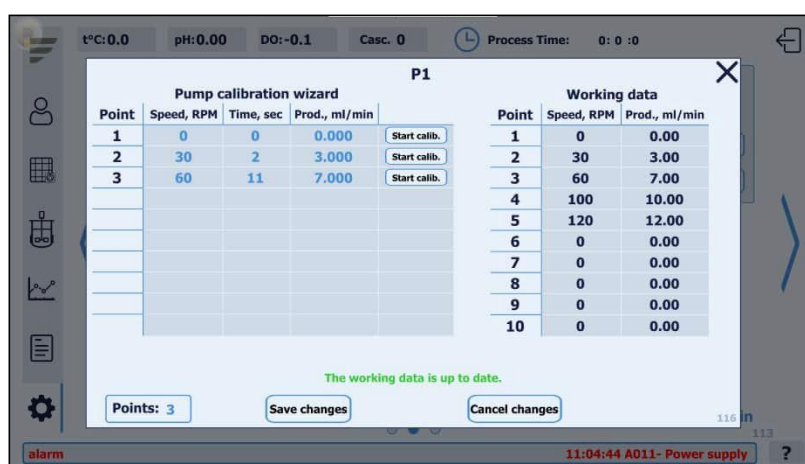

Figure 10.3. Pump calibration window
- 5) Use buttons P1, P2, P3, P4, and P5 to select the desired pump for calibration (see Figure 10.3). The P5 pump is the external pump* (controlled by an analogue signal), pumps P1 – P4 are built into the bioprocess controller;
- 6) In the calibration window define the desired amount of calibration points and the respective speeds and calibration time for each point (see Figure 10.3);